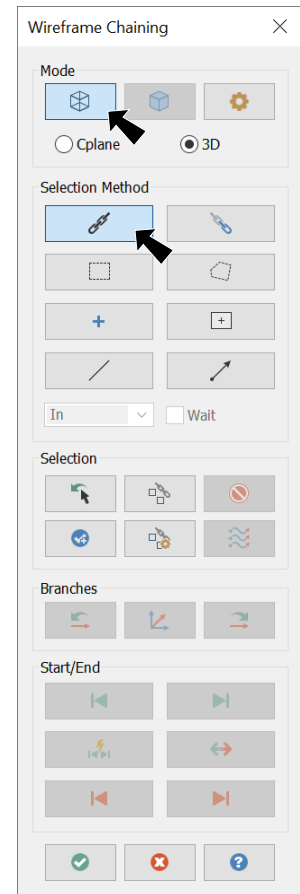

Fig. 24
Step 2. Click Chain  in Chaining dialog box, **Fig. 24**.